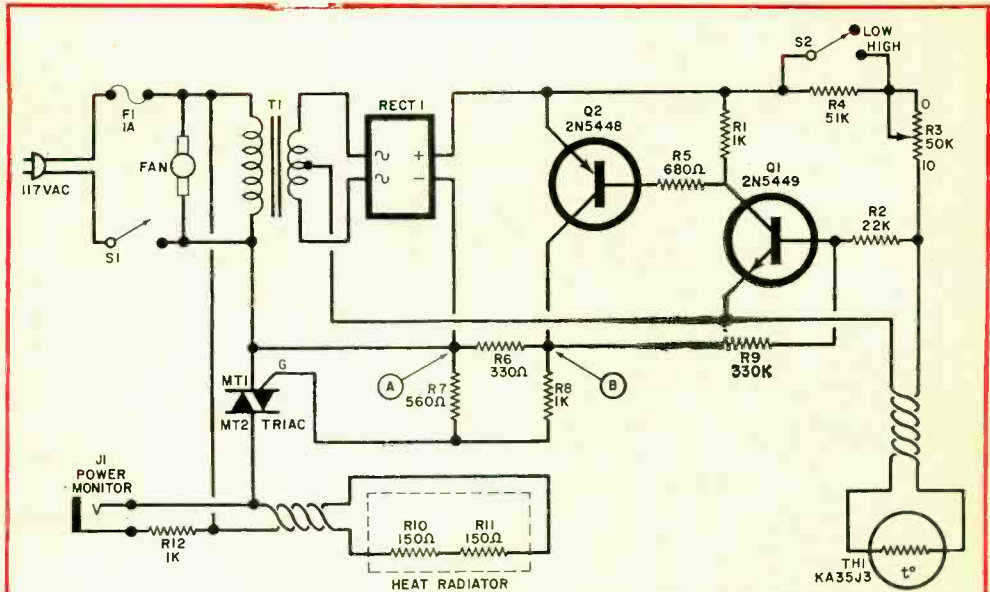

Fig. 1. Thermistor TH1 senses the heat radiated by power resistors R10 and R11.
When the electronic assembly is complete, temporarily disconnect the triac and connect a 10-volt dc voltmeter between points A and B of Fig. 1. With R3 set to a low resistance, no dc voltage should be indicated between the test points. As the resistance of R3 is increased, a 10-volt signal will appear. Make a check for both positions of range switch S2 and note that the dc voltage appears at a much higher resistance on R3 when S2 is in the low range. If everything is OK, disconnect the unit from the power line and replace the triac.
**Test and Calibration.** Recheck the mechanical assembly of all cooler-mounted components, making sure that all elements are firmly secured and that all glued joints are hard and dry. Recheck all the wiring in accordance with Fig. 1. Keep in mind that power-line ac is present on some leads and be very careful to avoid the possibility of an electrical shock.
The environmental chamber creates hot or cold temperatures by balancing a heater against the cooling effect of dry ice. A fan continuously circulates the air in the chamber, while a thermistor-controlled regulator circuit (Fig. 1) adjusts the temperature to the desired value, which is set on a dial. Transistors *Q1* and *Q2* form a complementary Schmitt trigger which normally has about 1.5 volts of lag (hysteresis). Since the trigger is powered by full-wave rectified dc with no filtering, the circuit voltage sweeps from zero through about 17 volts at a rate of 120 times per second. This varying power reduces the hysteresis to a few millivolts and thus provides control to  $\pm 1$  degree.